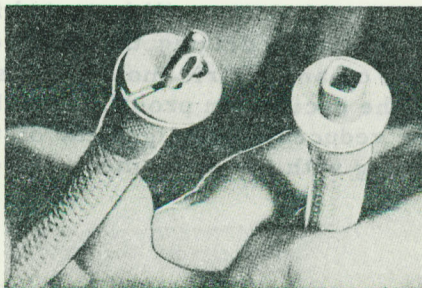

Figure 1 Ends of Tachometer Shaft
- (a) Disconnect both ends of the tachometer shaft. (See figure 1.)